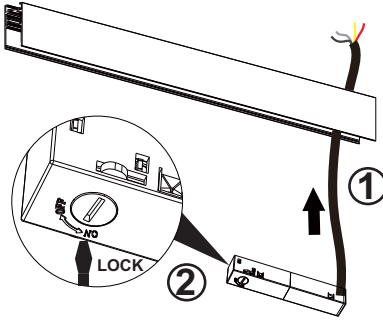

Figure 4
1. Run the power cord of connector LAA-SUS-LEF01/LAA-SURREC-LEF01 through the hole on the upper side of the LAA-SUSSUR-TR01. Connect the L-N wires with those of the output from driver and dimming wires with those of dimming switch. Put the connector in position of the track rail with correct pole direction. Turn the lock from OFF to ON position with flat head screw driver (Figure 4).